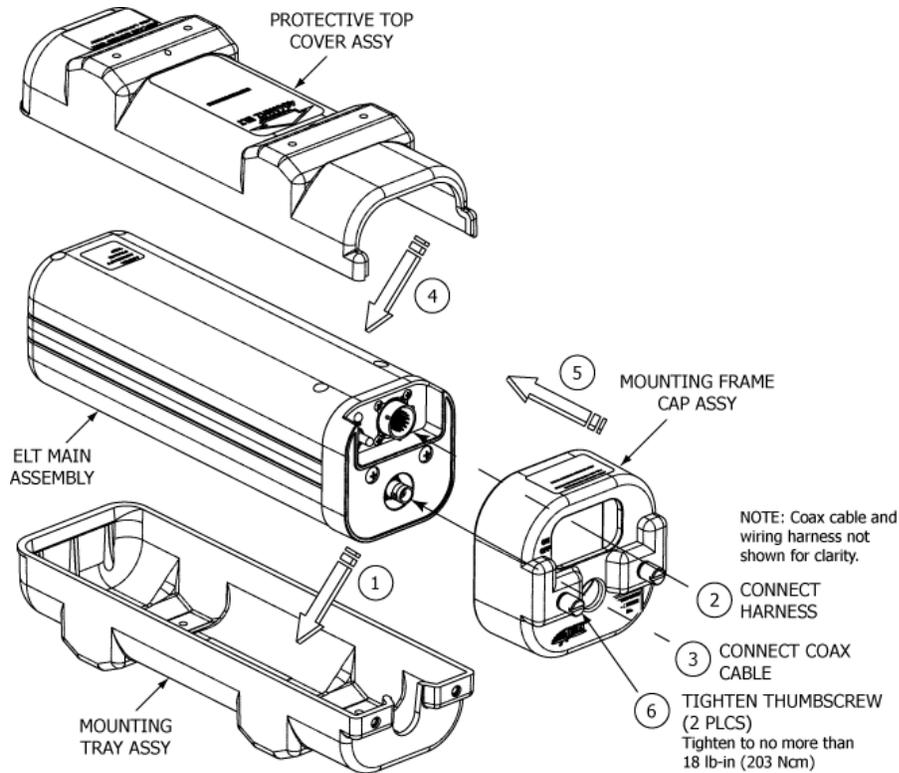

Figure 24 ELT Installation Sequence
- 1) See Figure 24 ELT Installation Sequence.